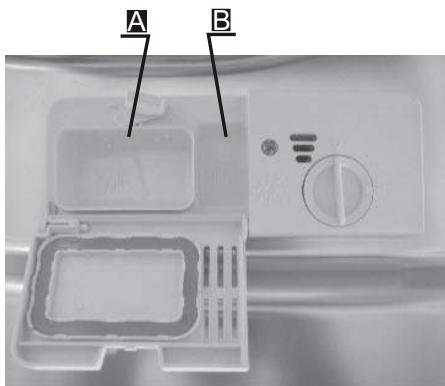

Fig. 6
The doses in the container will help pour in the correct amount of dishwashing detergent (Figure 6). The container consists of a compartment for main dishwashing (A) and pre-dishwashing (B).
Put the dishwashing detergent (a tablet, gel bag etc.) into the container (Figure 6) in the main dishwashing compartment (1). Should pre-dishwashing be needed, it is necessary to put the dishwashing detergent (a tablet, gel bag etc.) into the pre-dishwashing compartment (2) as well. In terms of savings and environmental protection, use a 2-in-1 pre-dishwashing detergent (a tablet, gel bag etc.). The use of so-called „combined“ dishwashing detergents may make the use of a rinse aid and/or salt unnecessary.